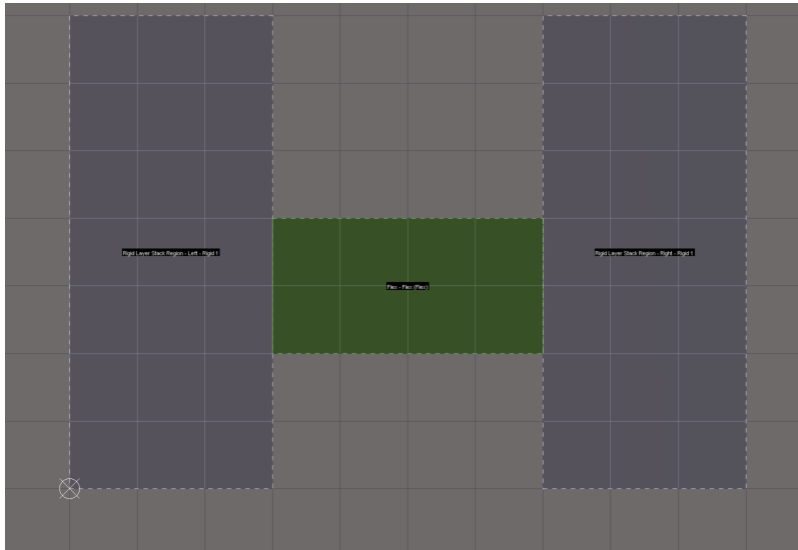

Figure 7. Layer Stacks assigned for Rigid-Flex design
- 15. The renamed and configured stacks are shown in Figure 7.